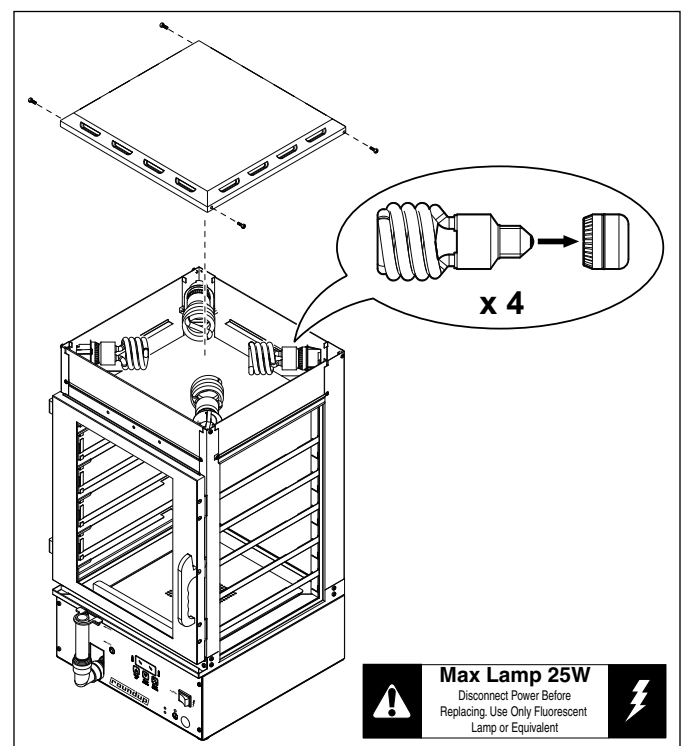

Figure 9. Replacing Light Bulbs
2. Remove the 4 screws securing the Top Cover to the unit (Figure 9). Set these screws aside.